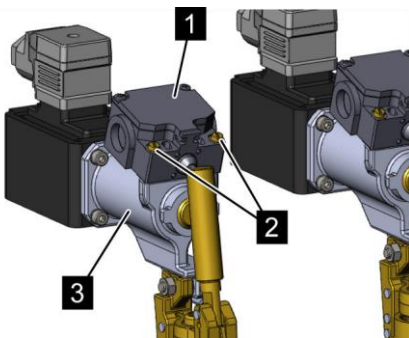

Fig. 112: Mounting the limit switches
12. ➤ Loosely fasten the limit switch (Fig. 112/1) with cylinder screws and washers on the holder of the EM release device (Fig. 112/3).
13. ➤ Align the limit switch (Fig. 112/1) in such a manner that the contact is activated with the valve lever.
14. ➤ Tighten the cylinder screws (Fig. 112/2).